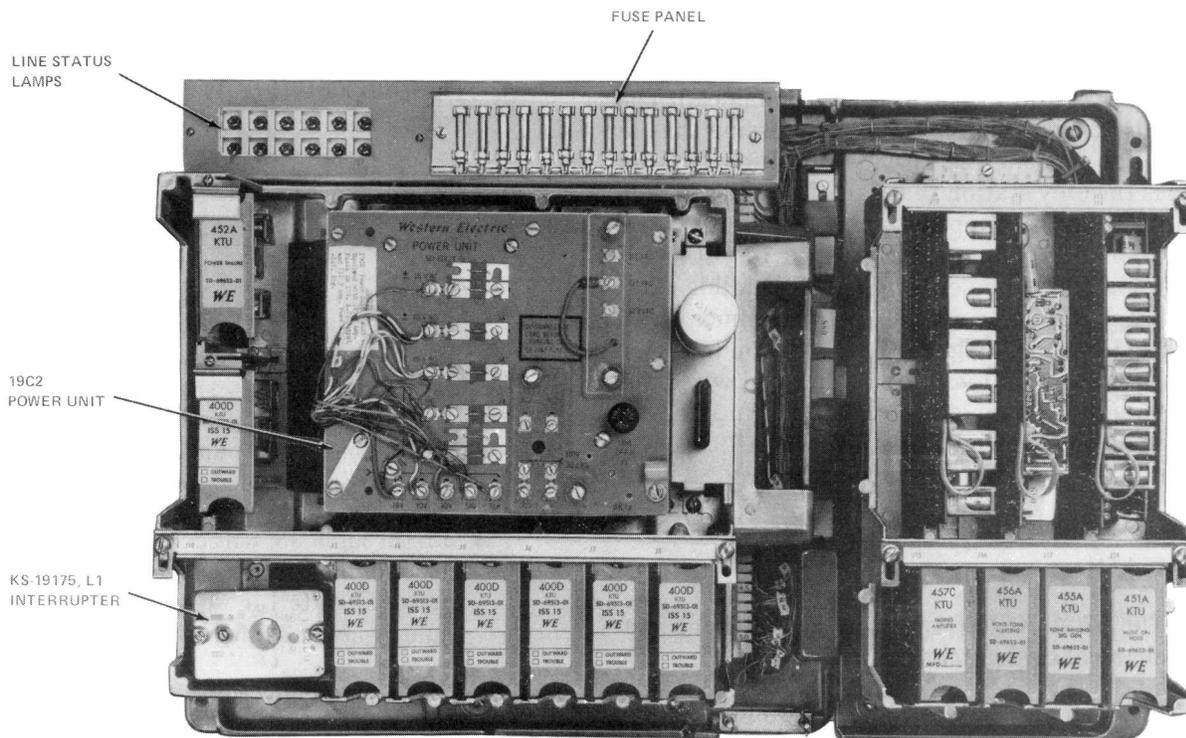

Fig. 1—570-Type KSU (Cover Removed)
**2.04** The 570B KSU (Fig. 1) is the same as the 570A except:
- Redesigned fuse panel using fuse clips instead of fuse holders (Fig. 1)